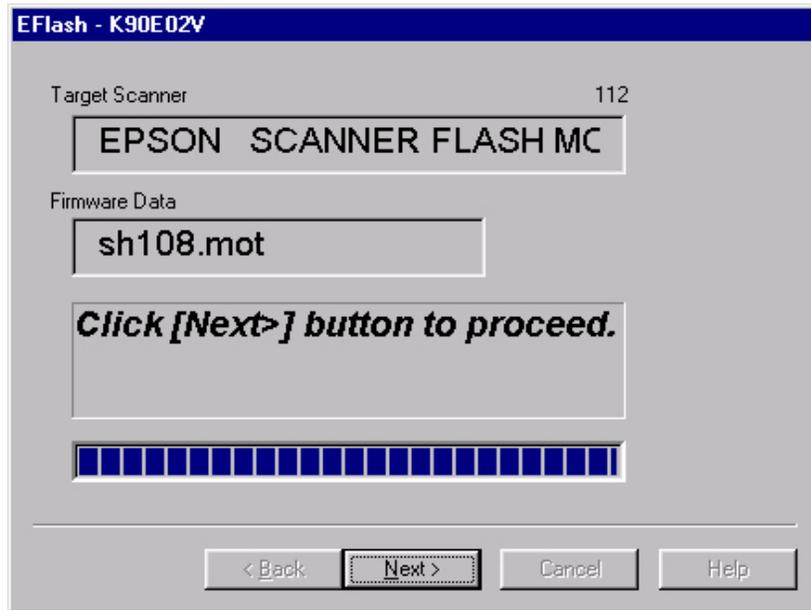

Figure 5-9.
6). Reboot the scanner and click “OK”. The reboot message box will be closed and Figure 5-9 will appear on the screen.